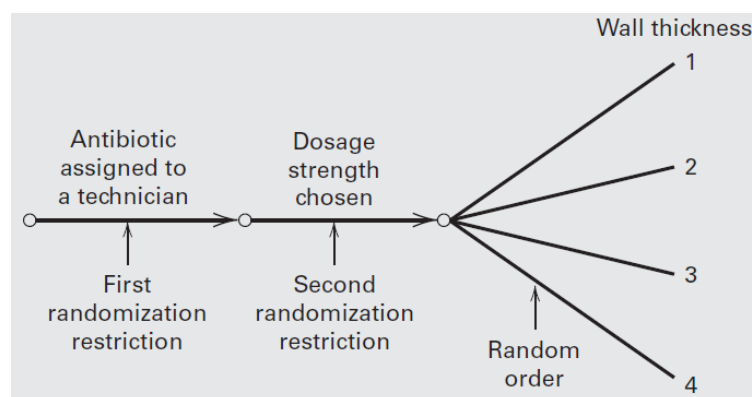

Figure 1.
For this experiment, demonstrate (you might use a flowchart similar to Figure 1 or a graph like
- (4) (2 pts) a split-plot design (i.e., consisting of only 2 kinds of experimental units, whole plots and subplots, in a block),
- (5) (2 pts) a factorial design in a randomized block.
- (6) (2 pts) In the first design plan (as shown in Figure 1) and the third design plan (refer to problem (5)), *how many units* of antibiotics are needed for each entire experiment? Which design plan saves more resources? What are sacrificed due to saving these resources?